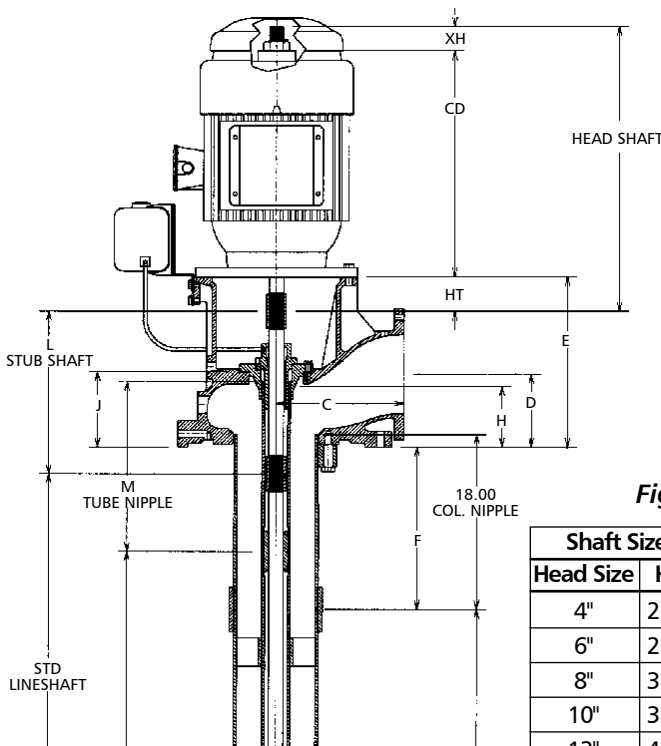

Figure 8
1. If the stuffing box (See Figure 8) or tension nut (See Figure 9) is assembled to the head, remove it and all the attached piping.
2. For threaded column, check to be sure that the flanged column (637) is securely attached to the bottom of the discharge head. Check and tighten the capscrews (or socket head screw) gradually in diametrically opposite pairs.
Assemble stuffing box as shown in Figure 8.